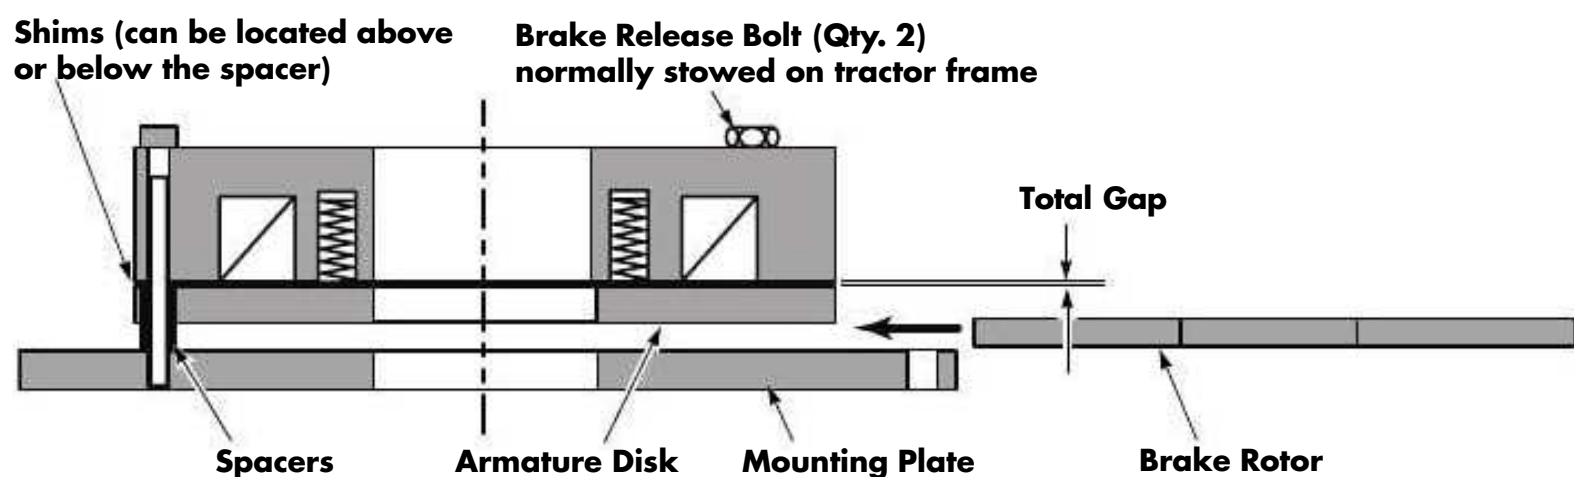

Figure 7-138. Installing Brake Rotor
1. Slide the new rotor into the assembly. The rotor is positioned between the armature disk and the brake mounting plate. See Figures 7-138 and 7-139.